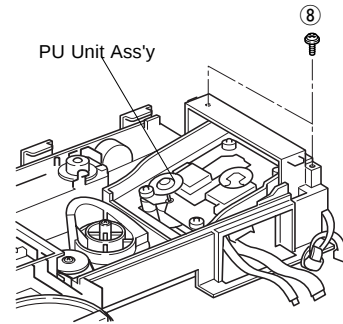

Fig. 4
- Remove 2 screws (⑧) and then remove the PU Unit Ass'y as shown Fig. 4.